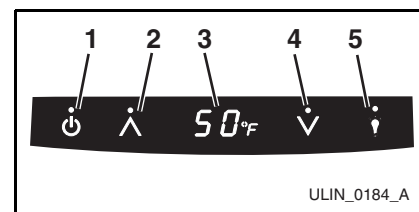

Figure 6
1. Press and release either the WARMER icon (**Figure 6, 2**) or COOLER icon (**Figure 6, 4**) to put the controller in the SET TEMPERATURE mode. The °F symbol (**Figure 6, 3**) will begin to flash.